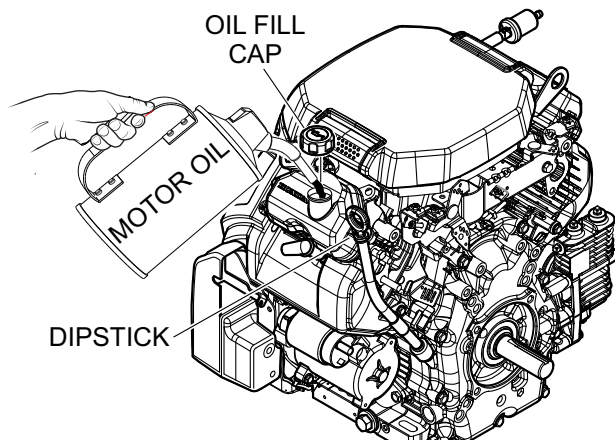

Figure 5. Engine Oil Dipstick Removal
2. Remove the dipstick from its holder (Figure 5) and wipe it clean.
4. If the oil level is low, remove the oil fill cap (Figure 5) and fill the engine crankcase with lubricating oil through the oil filler hole. **DO NOT** overfill.